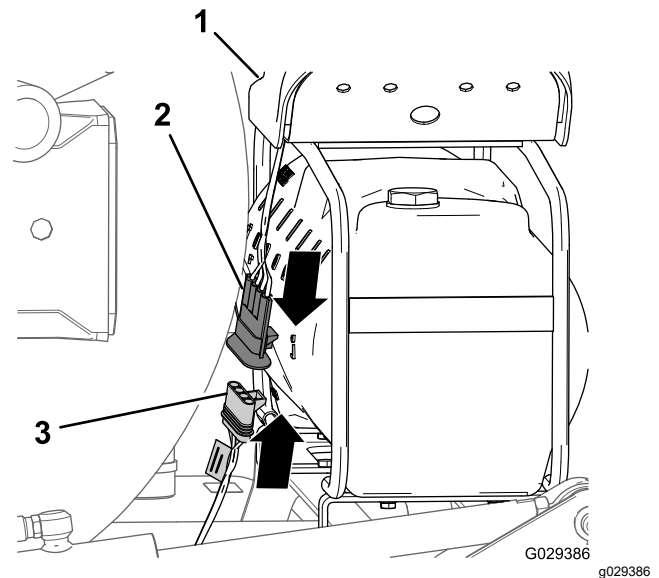

Figure 180
- At the end of the 236 cm (93 inch) branch of the wire harness, align the 4-socket connector of the wire harness for the finishing kit with the 4-pin connector of the wire harness from the compressor (Figure 180).
- Insert the 4-pin connector into the 4-socket connector (Figure 180).